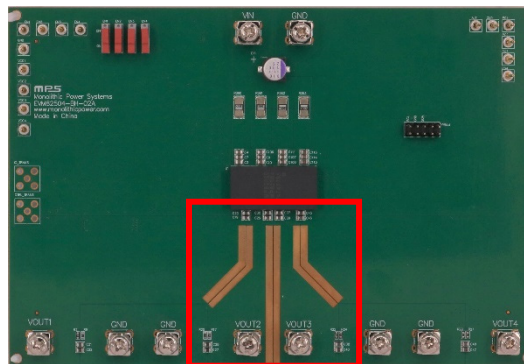

Figure 2: Tin Jumper Solder Points
- a. Before changing any register values, disable the evaluation board. Write the G_{FB} value calculated with Equation (2) to the VOUT_SCALE_LOOP register.
- c. Solder the tin jumper on the front and back of board between the exposed output copper of different channels for parallel operation (see Figure 2). ⁽⁴⁾